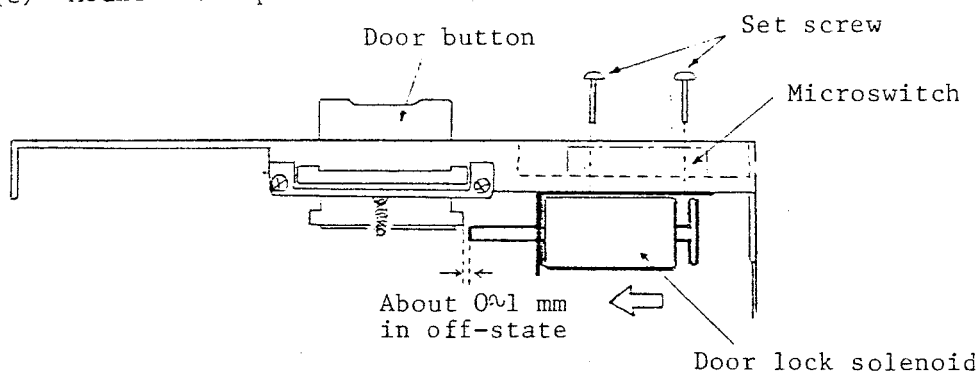

Fig. 4.18 Door Lock Assembly
- (1) Tools and measuring instruments to be used:
- (2) Disassembling
- (3) Assembling
- (a) Tighten the microswitch set screws to secure the solenoid. At this time, press the assembly arm in the arrowed direction (Fig. 4.18) and check that the door button does not come down.